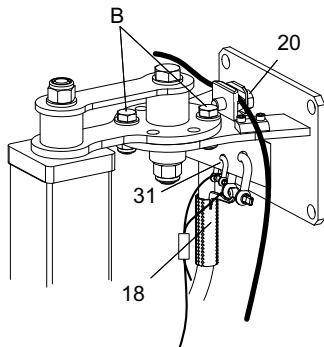

Fig. 12 Top fixation bracket with lifting and safety wires and cable sock
21. Mount the cable sock (pos. 18) to the top fixation bracket using the shackle, and pull the motor cable through it to the desired position. See fig. 12. The supply cable should be slightly tightened.